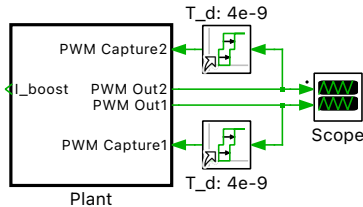

Figure 9: Top-level schematic in the task of Section 3.2
- 2 If you wish to run an offline simulation before building the model on to the RT Box, you need to change both PWM Capture blocks to the matching **Offline behavior: Nanostep**. Additionally you need to add **Pulse Delay Blocks** with $4\text{e-}9\text{ s}$ delay on the inputs of the PWM capture blocks, to avoid an algebraic loop. The top-level schematic of your model is now as shown in Fig. 9.